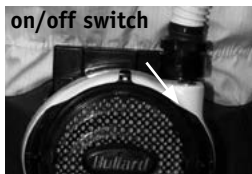

Figure 33
- Turn the blower on by depressing and holding the on/off switch (Figure 33) for approximately 1 second indicated by a short beep.